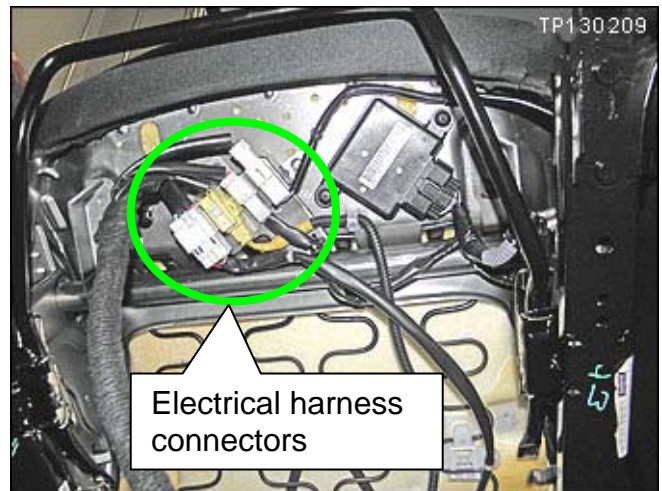

Figure 28
37. Reconnect the electrical harness connectors shown in Figure 28.